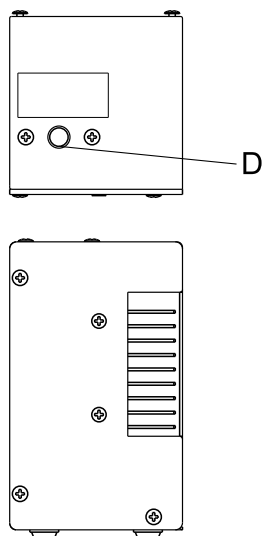

Figure 57 – TP10 flow meter
3. Fill the TPT10 thermometer well (D) with sterile distilled water (Figure 57).